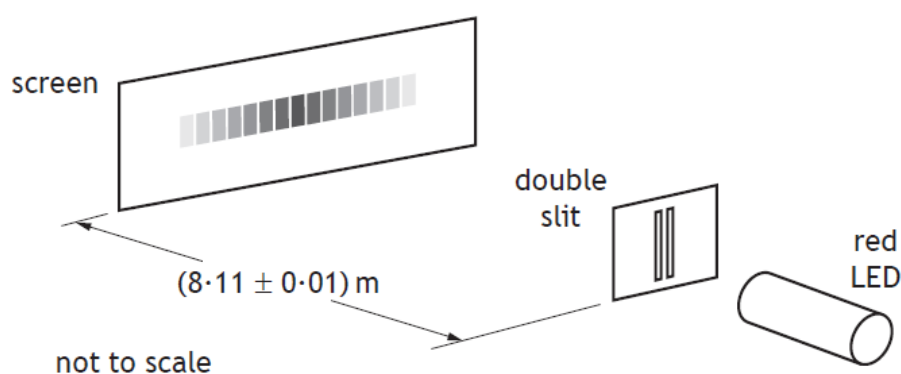

Figure 10B
- (c) An LED from the traffic light is tested to determine the wavelength by shining its light through a set of Young's double slits, as shown in Figure 10B.